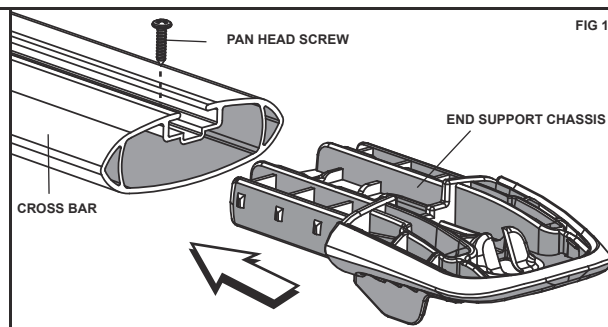

FIG 1
2. Pre-assemble the End Supports into Cross Bars. They are designed to be a tight fit: Use a rubber mallet if necessary (Fig.1).